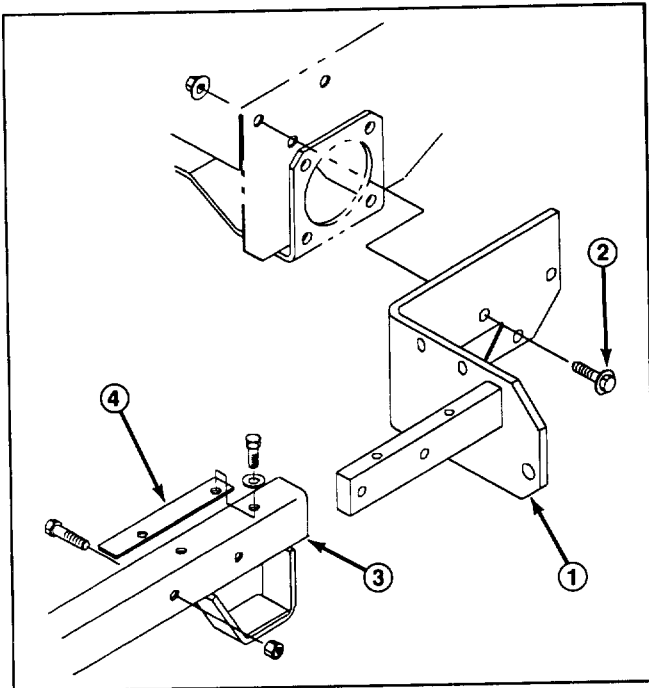

Figure 2
1. Align left and right angle bracket mounting holes with appropriate mounting holes in traction frame. Secure each bracket to frame with (3) 1/2 - 13 x 1" lg. flange screws and 1/2 - 13 flange locknuts (Fig. 2). Mount bottom flange screws with locknuts to the outside. Torque fasteners to 60-80 ft.-lb.
2. Align carrier frame mounting holes with mounting holes in angle brackets, while positioning shim between top of angle bracket and carrier frame, and aligning mounting holes (Fig.2).
3. Secure each side with (2) 3/8 - 16 x 1-3/4" lg. capscrews and 3/8 - 16 locknuts. Locknuts must be positioned outside carrier frame.
4. Secure top of each carrier frame and shim to angle brackets with (2) 3/8 - 16 x 7/8" lg. capscrews and lockwashers. Torque fasteners to 240-320 in.-lb.